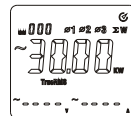

Figure 7-7
- As shown in Figure 7-7, total three-phase active power can be displayed by pressing SELECT key finally.